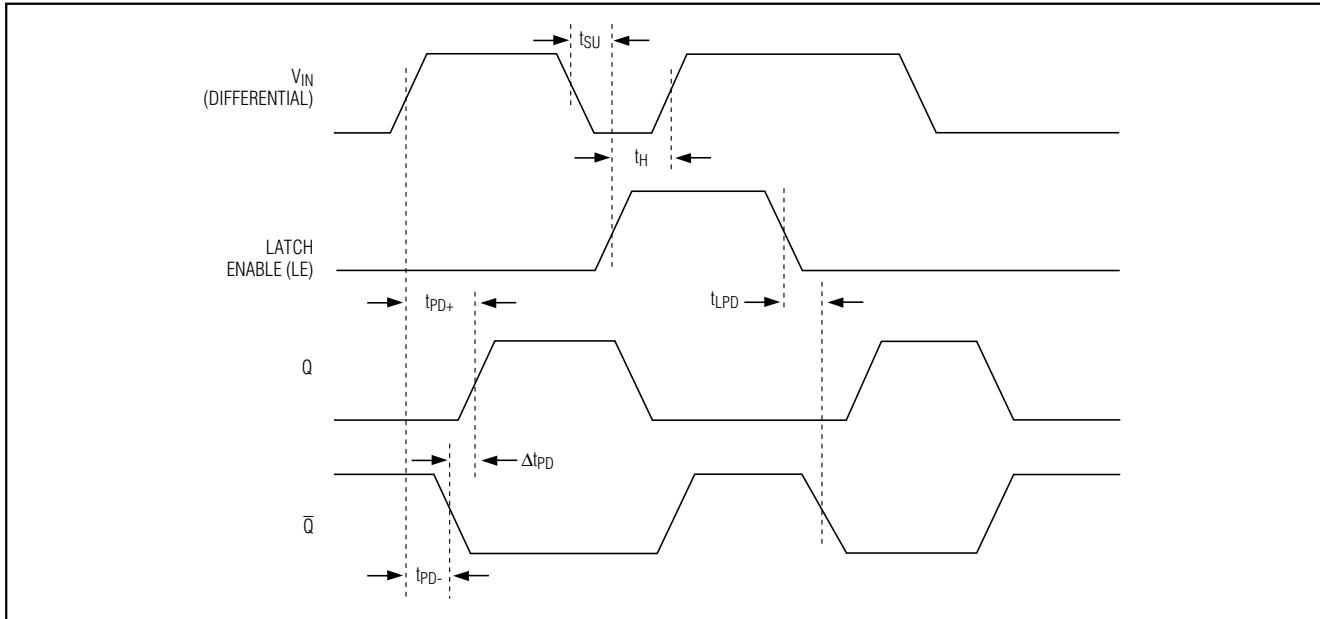

Figure 1. Timing Diagram
The MAX912/MAX913 provide a TTL-compatible latch function that holds the comparator output state (Figure 1). As long as Latch Enable (LE) is high or floating, the input signal has no effect on the output state. With LE low, the outputs are controlled by the input differential voltage and the latch is transparent.
The maximum clock and signal rate is 70MHz, based on the comparator's rise and fall time with a 5mV overdrive at  $+25^{\circ}C$  (Figure 1). With a 20mV overdrive, the maximum propagation delay is 12ns and the clock signal rate is 85MHz.